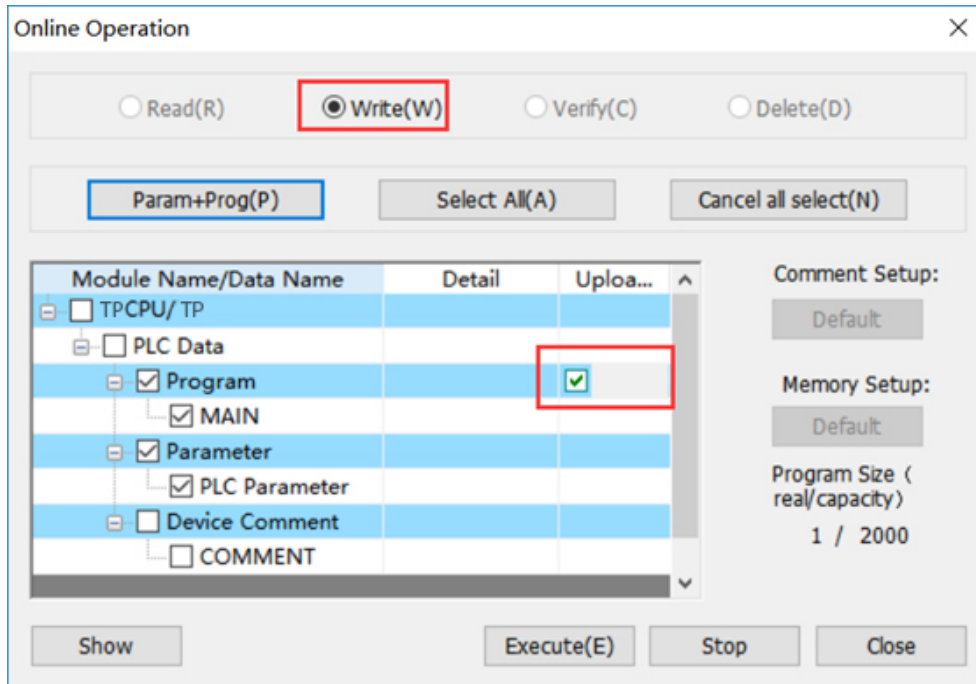

Figure 5-17
- 2) Check [Upload prohibited] in window, as Figure 5-17 shows;